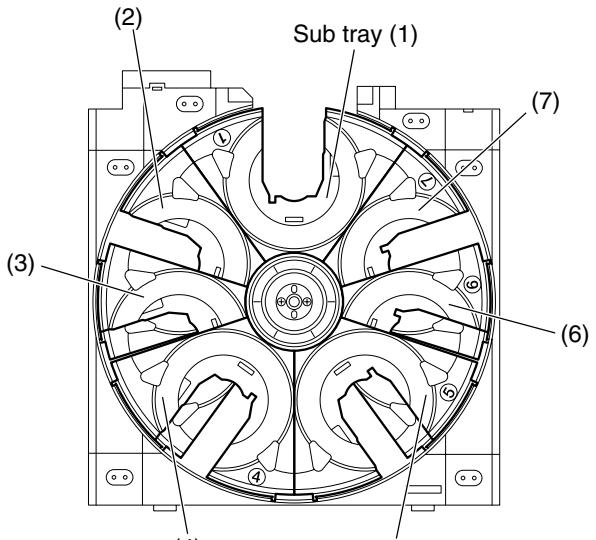

Fig.5
■Sub tray position and operation check (See Fig.5 and 6)
CAUTION: Make sure the sub trays are set as shown in Fig.5. When moving the sub trays, put the sub trays which come to the position (4) and (5) forward in turn.